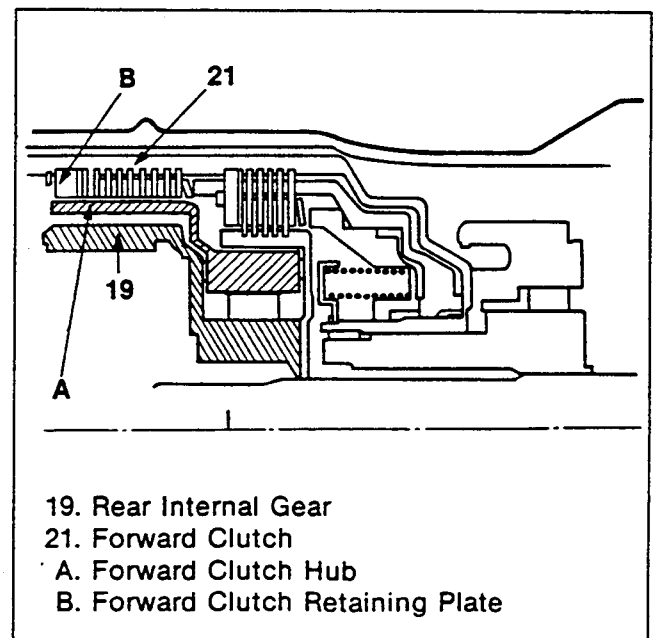

Figure 259. Forward Clutch Hub and Rear Internal Gear Installation (2)
- Assemble the forward clutch inner race and the overrun clutch hub completely together. If the assembly is completed, the end of the forward clutch hub (A) comes to approximately 1 mm (0.04 in) from the front surface (B) of the retaining plate in the forward clutch assembly (figure 259).